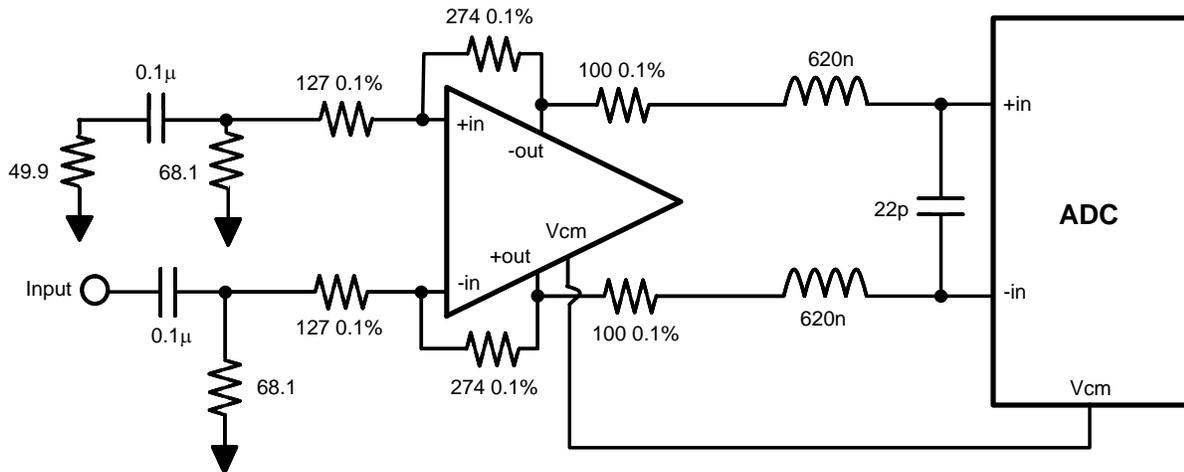

Figure 2. LMH6552 Driving a Circuit With 2nd Order Low Pass Filter
Figure 2 illustrates a 4.3 MHz 2nd order Low-Pass (LP) filter between the LMH6552 and the ADC14DS105.